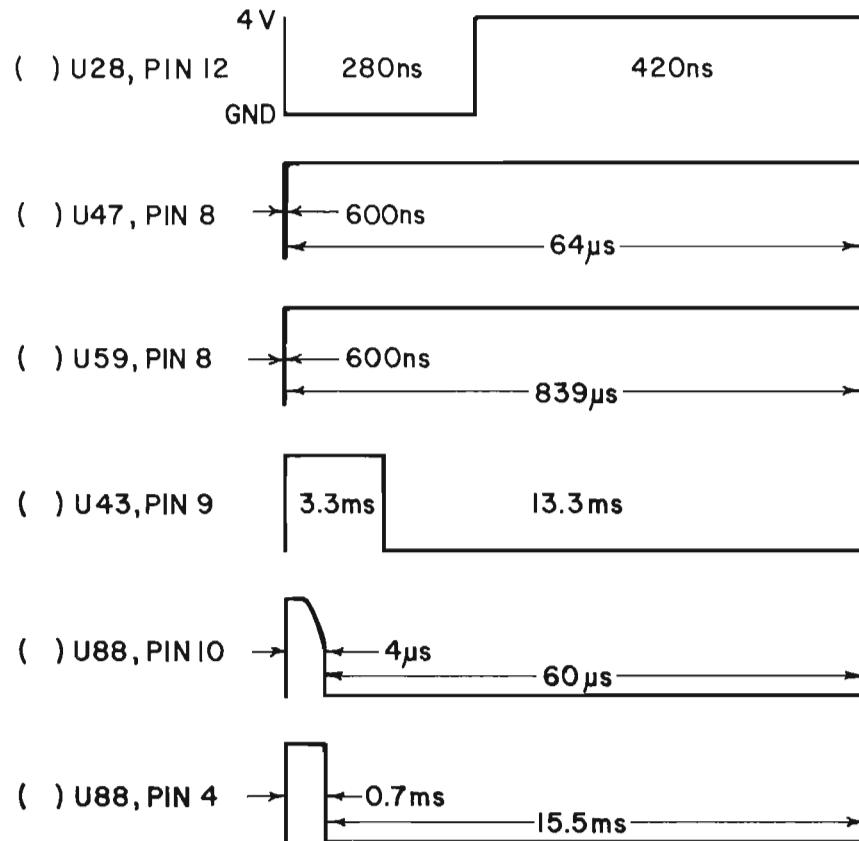

Figure 3-5. Display section timing waveforms.
- ( ) Using an oscilloscope, check for the waveforms given in Figure 3-5 at the indicated observation points and in the order given. The waveforms shown in Figure 3-5 approximate actual waveforms. If any waveforms are incorrect, determine and correct the cause before proceeding with assembly.